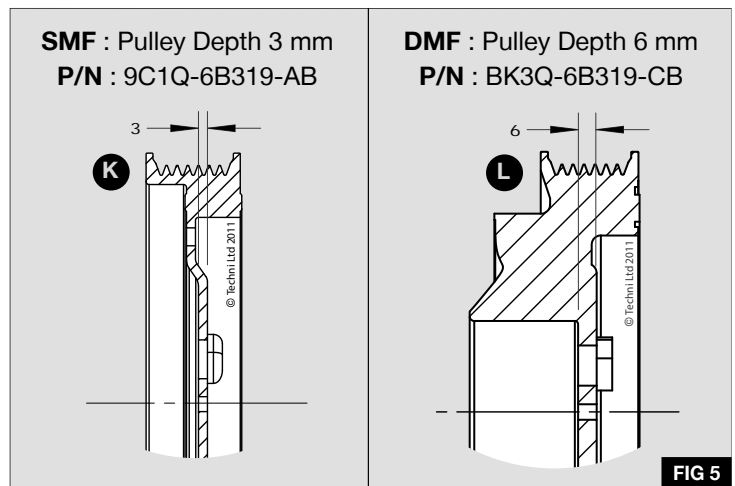

FIG 5
Note: Check original crankshaft damper before commencing installation, see Fig 5.
1. Check the type of engine crankshaft damper fitted to the vehicle, Single Mass Flywheel (SMF) or Dual Mass Flywheel (DMF) - Fig 5